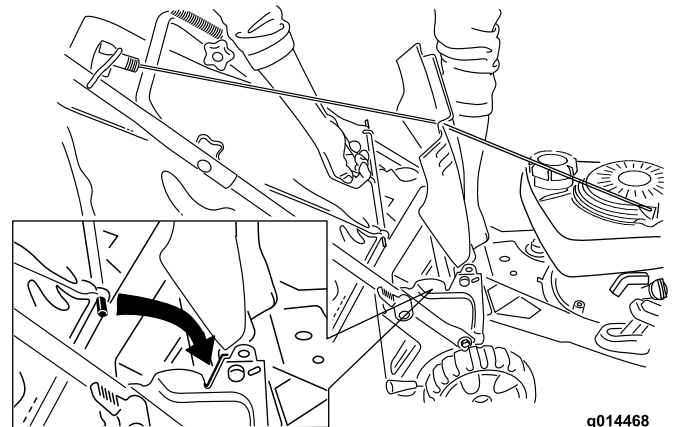

Figure 18
2. Raise and hold up the rear door, install the bag in the notches, and lower the rear door (Figure 18).